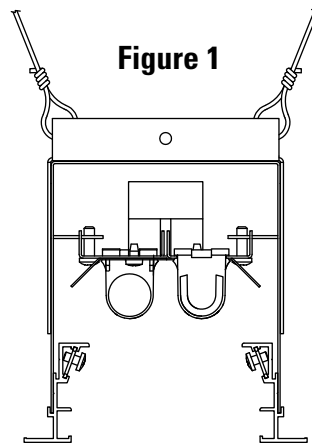

Figure 1
- A. Place fixture in desired location and support both ends with hang-wires from structure above. (Fig. 1)
- A. Lift starter fixture to desired height and support both ends with hang-wires from structure above, making sure it is properly level lengthwise and widthwise. (Fig. 1) NOTE: starter fixtures are shipped from the factory with a stiffening bracket that needs to be removed before the next fixture is installed.